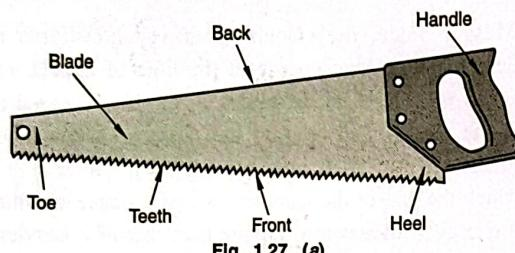

Fig. 1.27. (a)
Some important terms used in connection with saw are as under and are represented in Fig. 1.27 (a).
**1. Back :** The longitudinal edge of the blade opposite to the toothed edge is called back. [See Fig. 1.27]